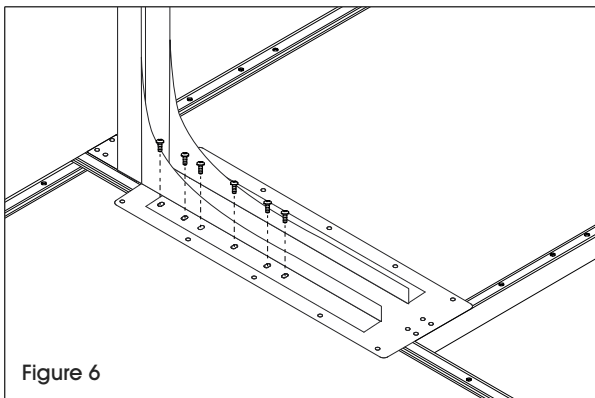

Figure 6
1. With both table assemblies upright, slide L-extension underneath base table on right or left hand side. Make sure that table corners align and that the six bolt locations closest to the center of the leg align with the holes on the edge of the base tabletop. (See Figure 6)
2. Attach L-leg (6) to underside of 72" top (5) with six nuts, bolts and lock washers.